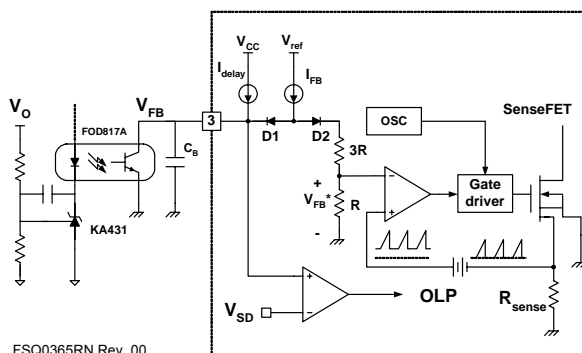

Figure 21. Pulse-Width-Modulation (PWM) Circuit
2. Feedback Control: FPS employs current mode control, as shown in Figure 21. An opto-coupler (such as the FOD817A) and shunt regulator (such as the KA431) are typically used to implement the feedback network. Comparing the feedback voltage with the voltage across the R_{sense} resistor makes it possible to control the switching duty cycle. When the reference pin voltage of the shunt regulator exceeds the internal reference voltage of 2.5V, the opto-coupler LED current increases, thus pulling down the feedback voltage and reducing the duty cycle. This event typically happens when the input voltage is increased or the output load is decreased.
2.1 Pulse-by-Pulse Current Limit: Because current mode control is employed, the peak current through the SenseFET is limited by the inverting input of PWM comparator (V_{FB}^*), as shown in Figure 21. Assuming that the 0.9mA current source flows only through the internal resistor ($3R + R = 2.8k$), the cathode voltage of diode D2 is about 2.5V. Since D1 is blocked when the feedback voltage (V_{FB}) exceeds 2.5V, the maximum voltage of the cathode of D2 is clamped at this voltage, thus clamping V_{FB}^* . Therefore, the peak value of the current through the SenseFET is limited.